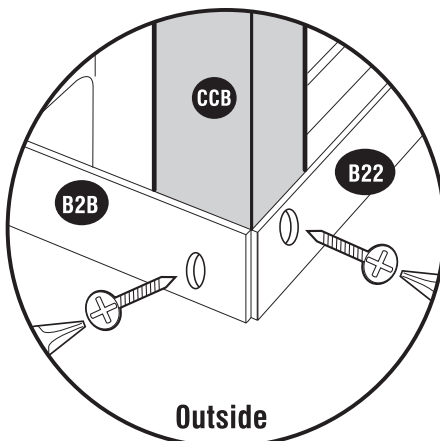

fig. 1
12. From outside back of the shed, detach the base angles from the **corner column (CCB)** at both corners and remove the corner columns. See **fig.1**. From inside detach the **(B21) & (B22)** base angles from **middle column (CMB)**. See **fig.2**.